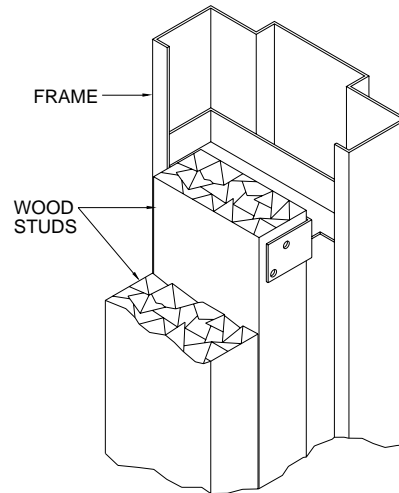

Figure 20 – Wood stud anchor
6. Square and nail top anchor to stud on ONE JAMB ONLY. Check plumb and square and continue to nail balance of anchors to stud. Repeat for opposite jamb (see figure 20).